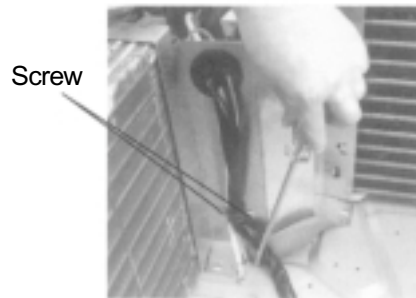

Figure 13
- ⑦ Disassemble the motor
- Unscrew the two screws as shown in figure 13 with a screwdriver.